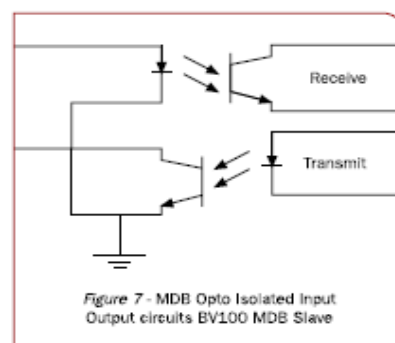

Figure 7 - MDB Opto Isolated Input Output circuits BV100 MDB Slave
- MDB defines a serial bus interface used in electrically controlled vending machines (see Figure 7).